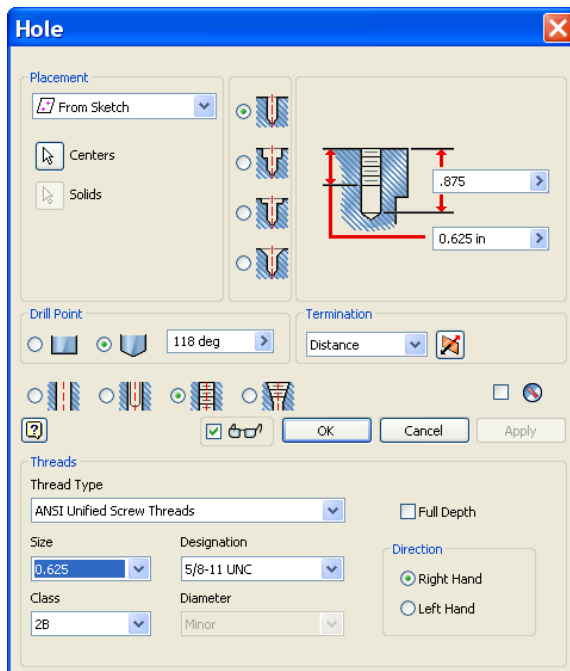

Figure 16. Specifying hole feature.
8. Use **Hole** from the **Modify** panel to create a drilled and tapped **Hole Feature**. See Figure 16.